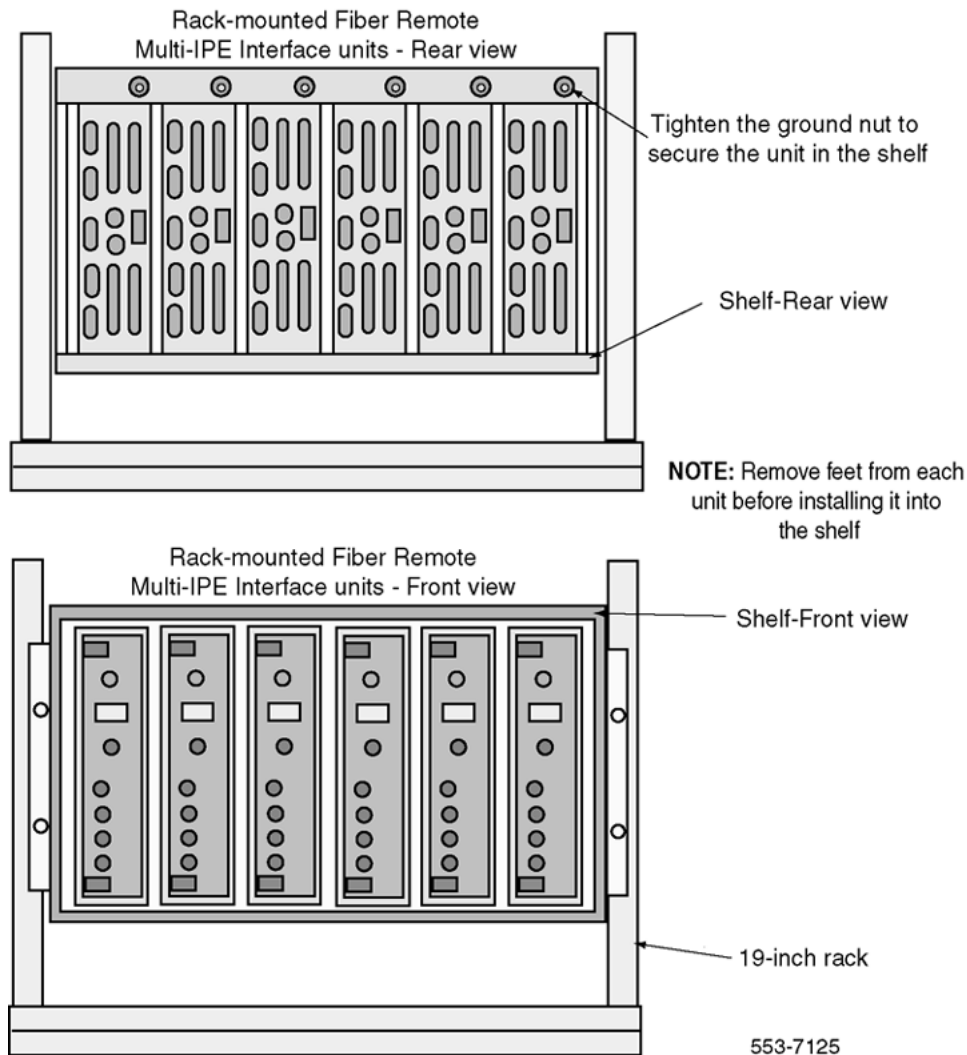
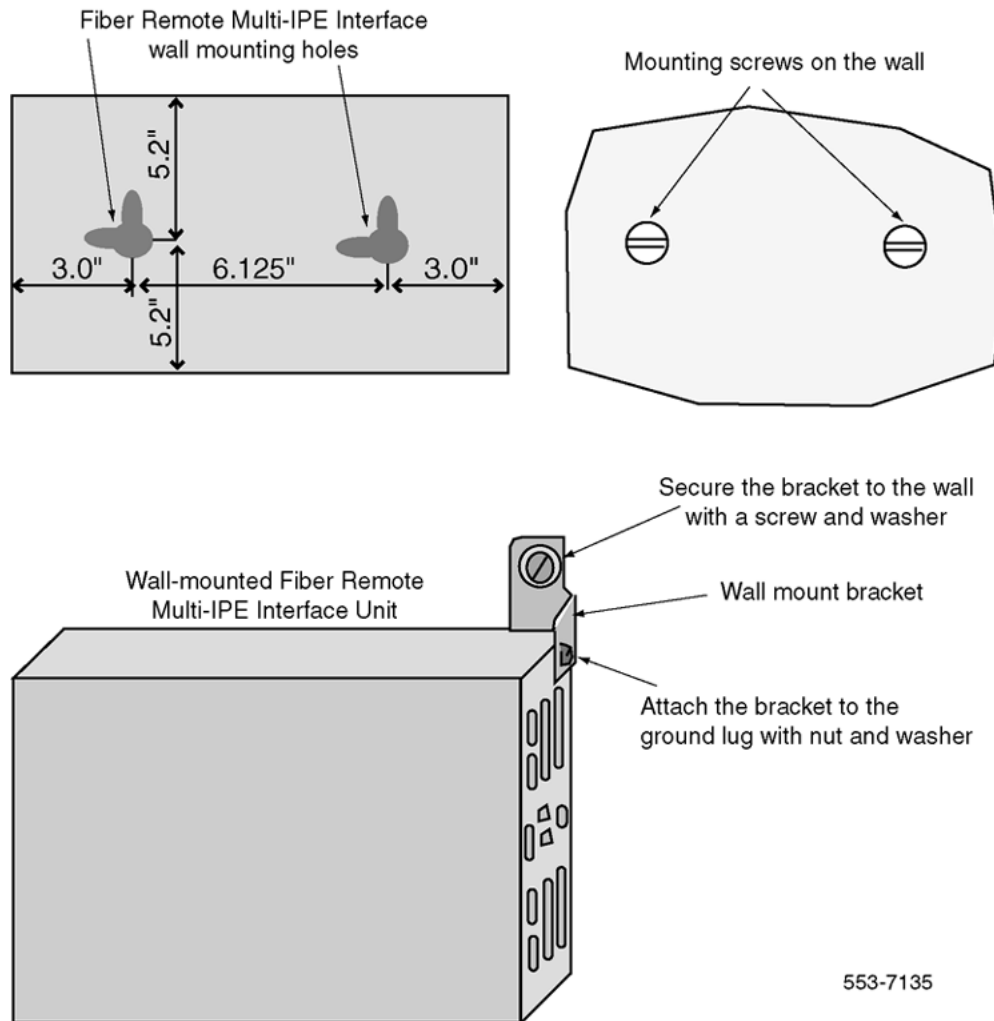

Figure 8: The Fiber Remote Multi-IPE Interface unit installation methods
Figure 9: Wall-mounting the Fiber Remote Multi-IPE Interface unit
7. Install the Fiber Remote Multi-IPE Interface unit into the rack-mounted shelf or onto the wall, as shown in Figure 8: The Fiber Remote Multi-IPE Interface unit installation methods on page 55 and Figure 9: Wall-mounting the Fiber Remote Multi-IPE Interface unit on page 57.
The shelf supports up to six Fiber Remote Multi-IPE Interface units and mounts onto a 19-inch rack using standard 10x32 pan head screws. Refer to Figure 8: The Fiber Remote Multi-IPE Interface unit installation methods on page 55 for installation illustration.
Figure 8: The Fiber Remote Multi-IPE Interface unit installation methods on page 55 illustrates the installation of the Fiber Remote Multi-IPE Interface units on the wall and into a rack-mounted shelf.
To mount the Fiber Remote Multi-IPE Interface unit on the wall refer to Figure 9: Wall-mounting the Fiber Remote Multi-IPE Interface unit on page 57 and follow the steps in Installing the Fiber Remote Multi-IPE Interface unit onto the wall on page 55.
Refer to Figure 9: Wall-mounting the Fiber Remote Multi-IPE Interface unit on page 57 to see the hole location templet.
Figure 9: Wall-mounting the Fiber Remote Multi-IPE Interface unit on page 57 illustrates the installation of the Fiber Remote Multi-IPE Interface unit onto the wall.